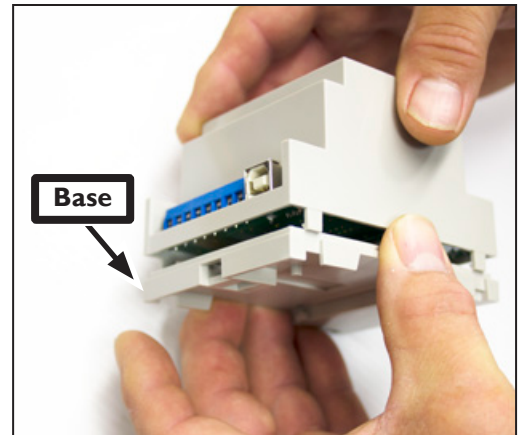

Figure 3
3. Snap the Base on to the bottom of Enclosure (see **Figure 3**) and attach the Cover Plate to the top of the Enclosure. Make sure the text on the sticker matches the terminal block locations and the USB port on the Control Board.